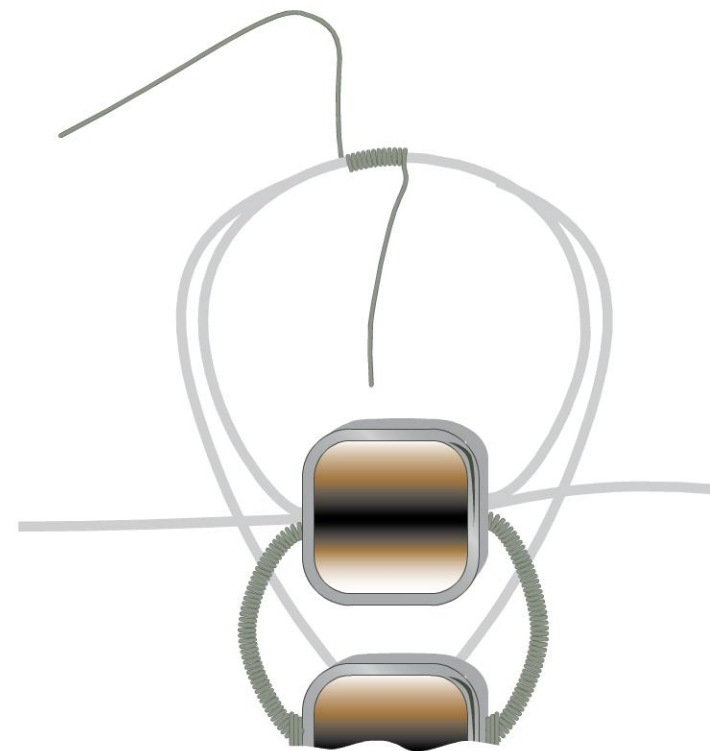

figure 6
- 16** Cut 2' (61 cm) of 26-gauge wire. Hold the 22-gauge wires so that one wire is on top of the other. Leaving a 1' (30.5 cm) tail, begin coiling the center of the loop (Figure 6).